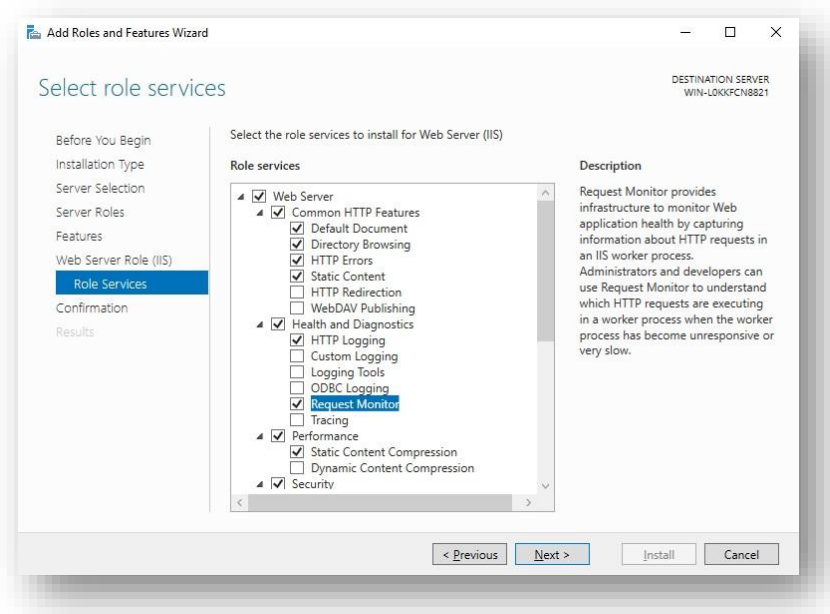
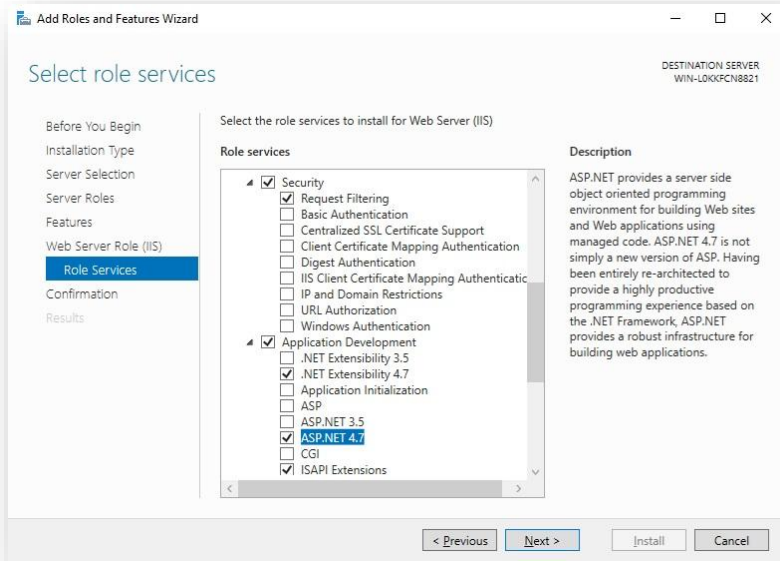
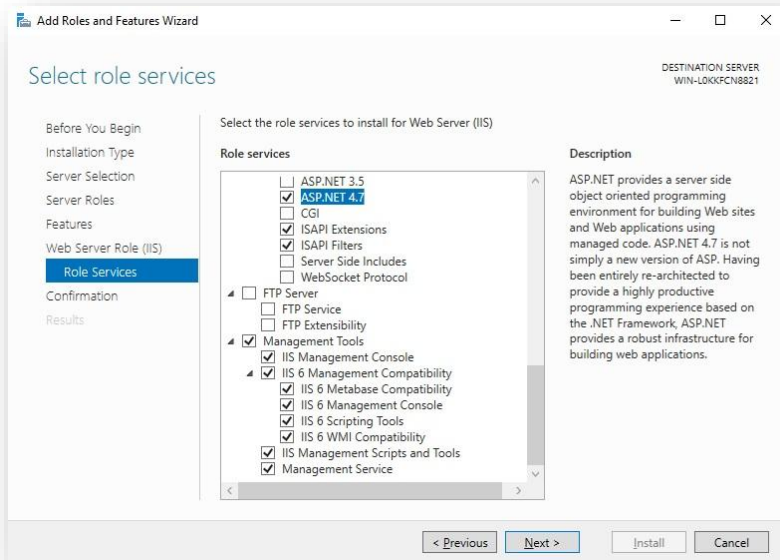

Figure 4 – Add Roles Wizard (Select Role Services 1)
Figure 5 – Add Roles Wizard (Select Role Services 2)
Figure 6 – Add Roles Wizard (Select Role Services 3)
8. Verify that the selected role services resemble Figure 4, Figure 5, and Figure 6 below, and then click **Next**.